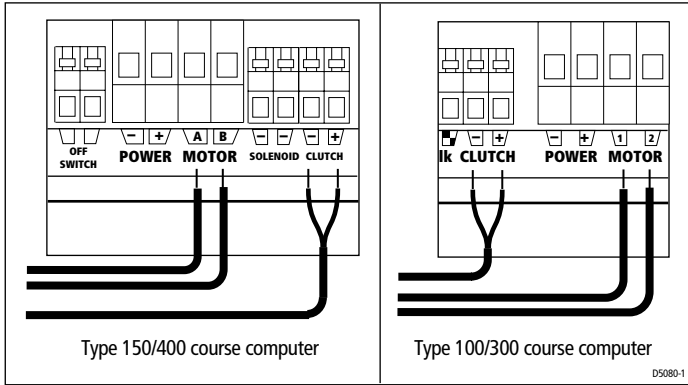

Figure 8: Cable connections at course computer
4. Connect the cables to the course computer (see *Figure 8*):